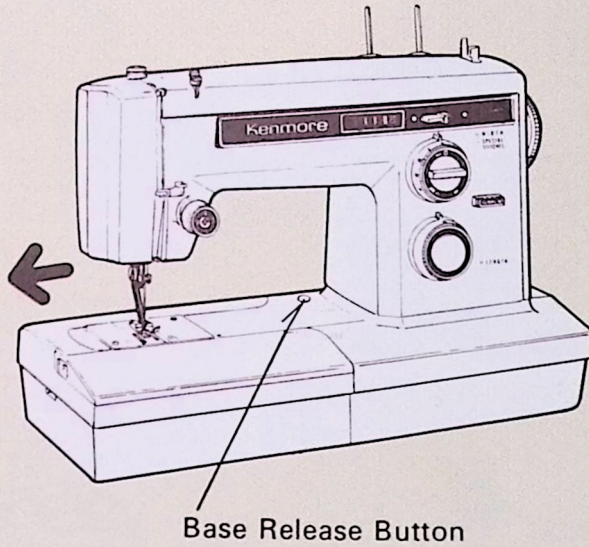

Fig. 1
1. To install the machine in cabinet, position machine head on cabinet platform so that holes on bottom of machine match those on boards. Insert washers and screws and tighten into place. (Fig. 1)
1. Remove the base from the machine by pushing the release button and pulling the base to the left at the same time. (Fig. 1, 2)
2. To replace the base, simply slide it along the free arm to its original position. (Fig. 1)
1. Release clutch by pulling hand wheel as shown in Fig. 1.